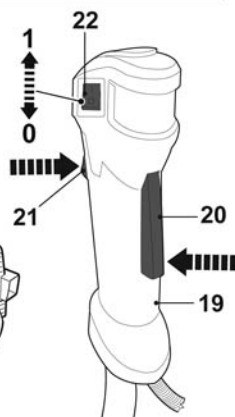

Fig. 23
- > Press the trigger lock [20] and the throttle [21] (Fig. 23).